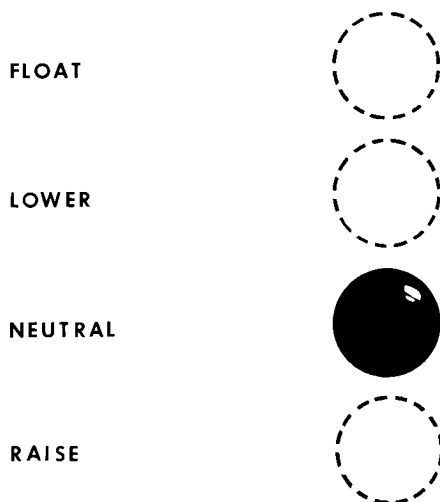

Figure 28
**TO RAISE THE BUCKET** - pull the control lever rearward, Figure 28. Raise is a retained position and the control lever must be manually moved from the raise position to any other required position. By placing the lever in the retained raise position, the operator's hand is free to work the tilt lever for fast, efficient crowding action.
**TO LOWER THE BUCKET** - push the control lever forward, Figure 28. It is necessary to hold the lever in this position to continue lowering the bucket. Releasing the lever will stop the bucket and hold it in position.
**FLOAT** - is a retained position ahead of the lowering position, Figure 28, and provides the bucket with float action. By pushing the control lever all the way forward until the valve spool locks in float detent, leaving operator free to operate the bucket tilt lever. The retained float position also allows the bucket to skim over graded or smooth surfaces without constant lever manipulation. This float action prevents gouging or skipping.